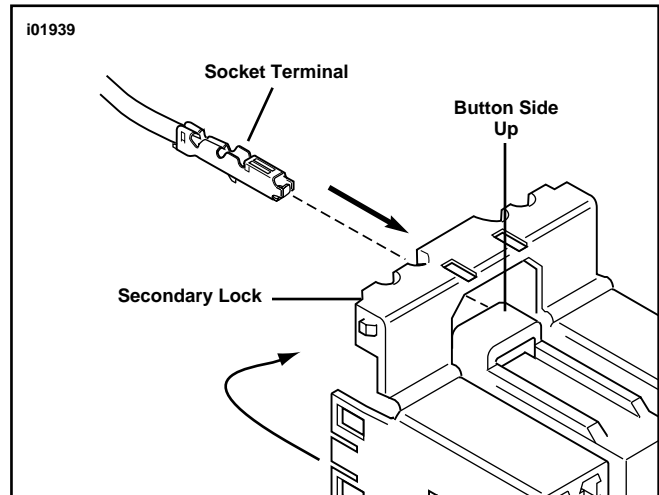

Figure 9. Install Wire to Connector
- a. See Figure 9. From the secondary lock side of the connector, insert the terminal into its respective chamber until it snaps in place. For proper fit, the slot on the terminal must face the tang (up) in the chamber.